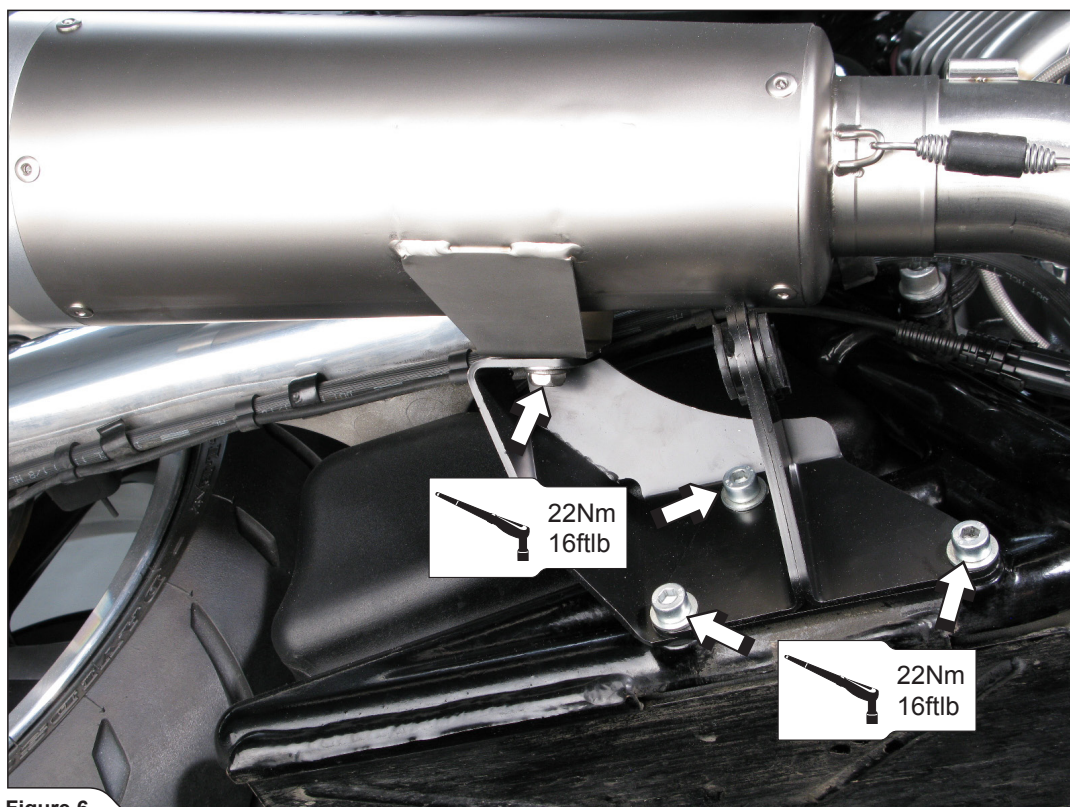

Figure 6
6. **Passenger Footrests' brackets mounting (for Muscle models only):** correctly assemble the footrest brackets onto the motorcycle using bolts and washers from Akrapovič installation kit and tighten them to the specified torque (**Figure 6**).